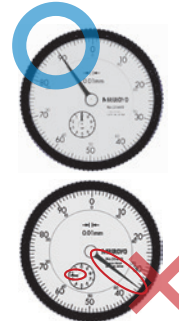

Fig. 2
4. If the pointer and revolution counter are significantly out of position at the rest point (where the spindle is fully extended) (Fig. 2), the spindle or works may be damaged. Contact Mitutoyo for repair without trying to disassemble any part of the works yourself. (Fig. 3)